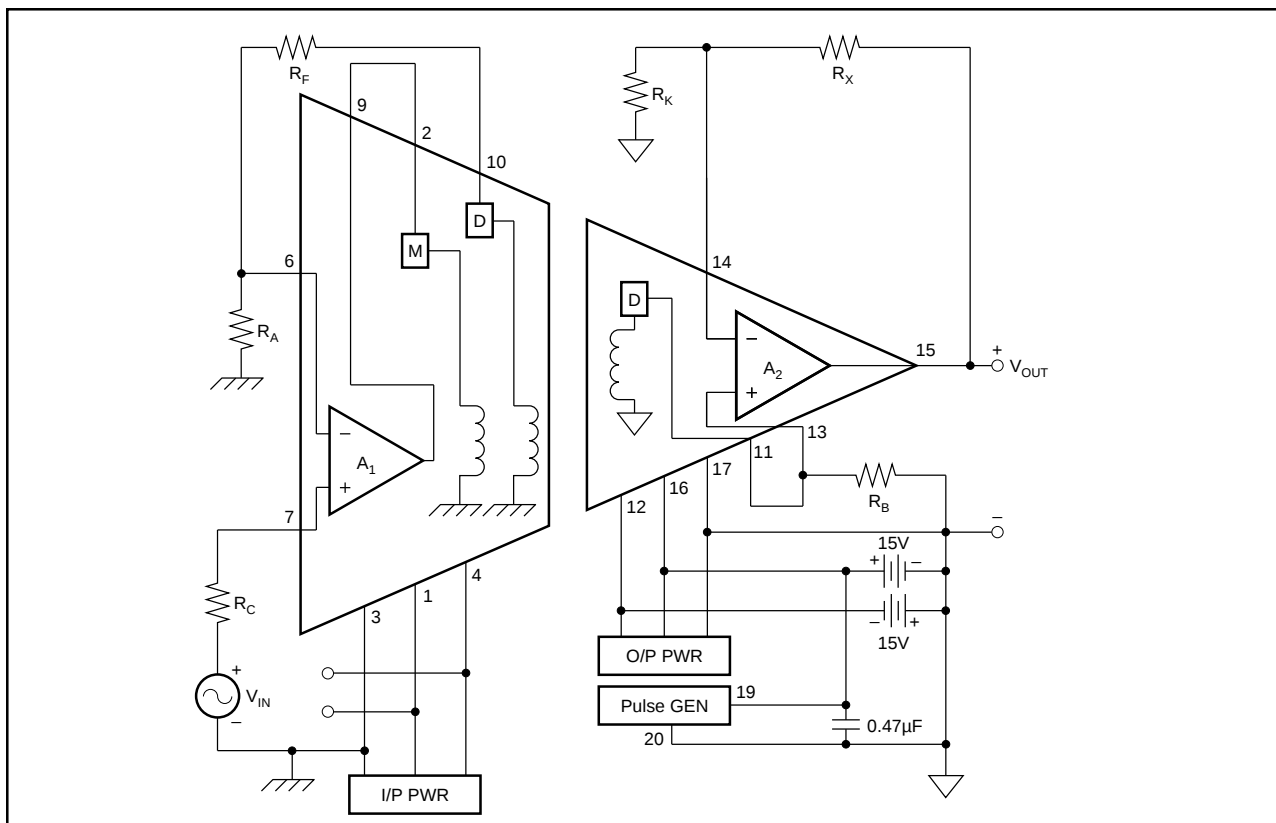

FIGURE 3. Power: Two-Port, Dual Supply; Signal: Noninverting Gain.
NOTES: (1) Ratings in parenthesis are between P– (pin 20) and O/P Com (pin 17). Other isolation ratings are between I/P Com and O/P Com or I/P Com and P–. (2) See Performance Curves. (3) May be trimmed to zero. (4) If output swing is unipolar, or if the output is not loaded, specification same as if external supply were used. (5) Includes effects of A₁ and A₂ offset voltages and bias currents if recommended resistors used. (6) Versus the sum of all external currents drawn from V+, V–, +V, –V (= ISO). (7) Effects of A₁ and A₂ bias currents and offset currents are included in Offset Voltage specifications. (8) With respect to I/P Com (pin 3) for A₁ and with respect to O/P Com (pin 17) for A₂. CMR for A₁ and A₂ is 100dB, typical. (9) In configuration of Figure 3. Ripple frequency approximately 750kHz. Measurement bandwidth is 30kHz. (10) Decreases linearly from 16VDC at 85°C to 12VDC at 100°C. (11) Instantaneous peak current required from pins 19 and 20 at turn-on is 100mA for slow rising voltages (50ms) and 300mA for fast rises (50μs). (12) Load current is sum drawn from +V, –V, V+, V– (= I_{ISO}). (13) Maximum voltage rating at pins 1 and 4 is ±18VDC; maximum voltage rating at pins 12 and 16 is ±18VDC. (14) Isolation ratings may degrade if exposed to 125°C for more than 1000 hours or 90°C for more than 50,000 hours.
Figure 3 shows two-port isolation which uses an external bipolar supply with its common connected to the output stage ground (pin 17). One of the supplies (either + or - could be used) provides power to the pulse generator (pins 19 and 20). The same sort of configuration is possible with the external supplies connected to the input stage. With the connection shown, filtering at pins 12 and 16 is not required. In this configuration continuous isolation voltage rating is: 3500VDC between pins 3 and 17; not applicable between pins 17 and 19; 3500VDC between pins 3 and 19.
The signal path portion of Figure 3 demonstrates two additional gain configurations: gain in the output stage and noninverting gain in the input stage. The following equations apply:
Use the resistor values obtained in Steps 3, 4, 8 and 9, and connect the 3656 as shown in Figure 3.